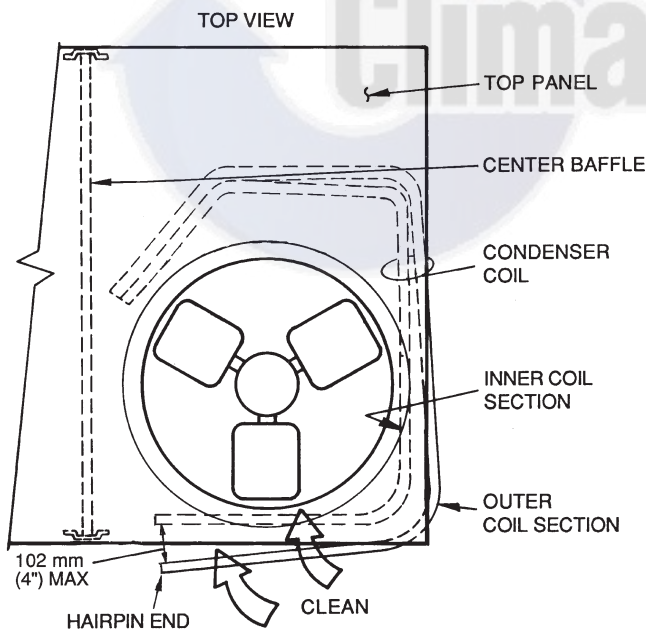

Fig. 14 — Separating Coil Sections
7. Remove the fasteners holding the coil sections together at the return end of the condenser coil. Carefully separate the outer coil section 3 to 4 in. from the inner coil section. See Fig. 14.